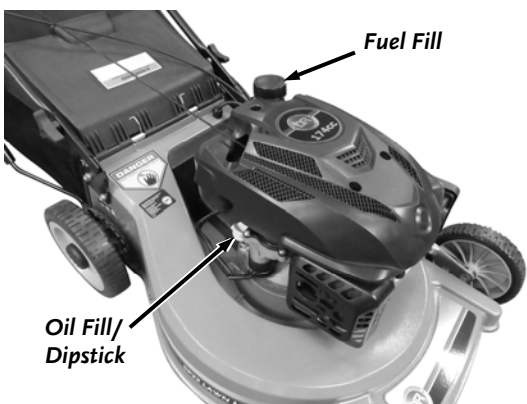

Figure 11
1. Place the machine on a level surface remove the Oil Fill/Dipstick (**Figure 11**).
6. Remove the Gas Fill Cap and fill the Gas Tank with fresh, unleaded gas (with a minimum of 85 Octane) to approximately 1" to 1-1/2" below the top of the fill neck to allow for fuel expansion (**Figure 11**). Be careful not to overfill and reinstall the Gas Fill Cap before starting the engine. See your Engine Owner's Manual for more detailed information.